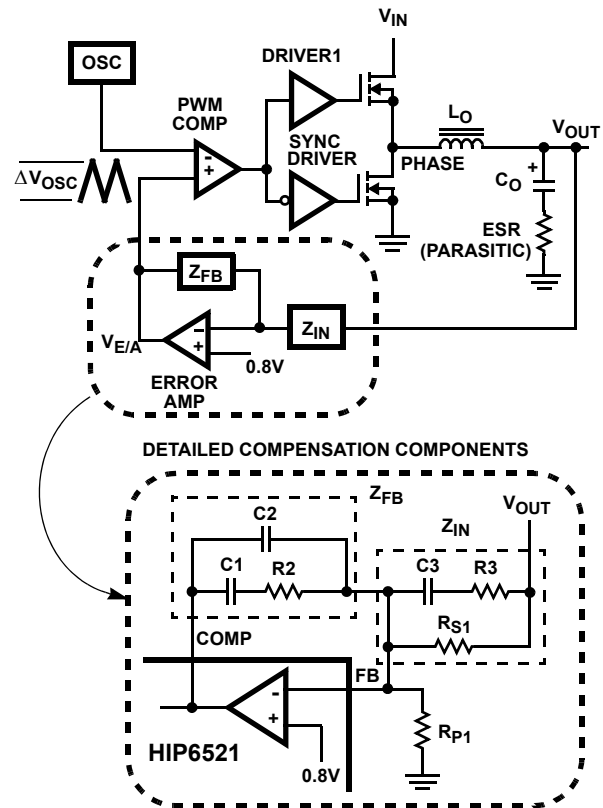

FIGURE 6. VOLTAGE-MODE BUCK CONVERTER COMPENSATION DESIGN
Figure 6 highlights the voltage-mode control loop for a synchronous-rectified buck converter. The output voltage ( $V_{OUT}$ ) is regulated to the Reference voltage level, 0.8V. The error amplifier (Error Amp) output ( $V_{E/A}$ ) is compared with the oscillator (OSC) triangular wave to provide a pulse-width modulated (PWM) wave with an amplitude of  $V_{IN}$  at the PHASE node. The PWM wave is smoothed by the output filter ( $L_O$  and  $C_O$ ).
The compensation network consists of the error amplifier (internal to the HIP6521) and the impedance networks  $Z_{IN}$  and  $Z_{FB}$ . The goal of the compensation network is to provide a closed loop transfer function with high 0dB crossing frequency ( $f_{0dB}$ ) and adequate phase margin. Phase margin is the difference between the closed loop phase at  $f_{0dB}$  and 180°. The equations below relate the compensation network's poles, zeros and gain to the components ( $R_1$ ,  $R_2$ ,  $R_3$ ,  $C_1$ ,  $C_2$ , and  $C_3$ ) in Figure 6. Use these guidelines for locating the poles and zeros of the compensation network:
Figure 7 shows an asymptotic plot of the DC/DC converter's gain vs. frequency. The actual Modulator Gain has a high gain peak dependent on the quality factor (Q) of the output filter, which is not shown in Figure 6. Using the above guidelines should yield a Compensation Gain similar to the curve plotted. The open loop error amplifier gain bounds the compensation gain. Check the compensation gain at  $F_{P2}$  with the capabilities of the error amplifier. The Closed Loop Gain is constructed on the log-log graph of Figure 10 by adding the Modulator Gain (in dB) to the Compensation Gain (in dB). This is equivalent to multiplying the modulator transfer function to the compensation transfer function and plotting the gain.